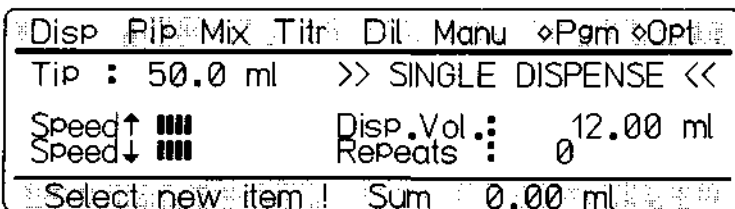

Fig. 4: EDOS display,
3.2 The display (Fig. 4 + 5)
The top line of the display, the **command line**, is activated. The line is dark, the field of the **function last executed** is highlighted (see Fig. 4).